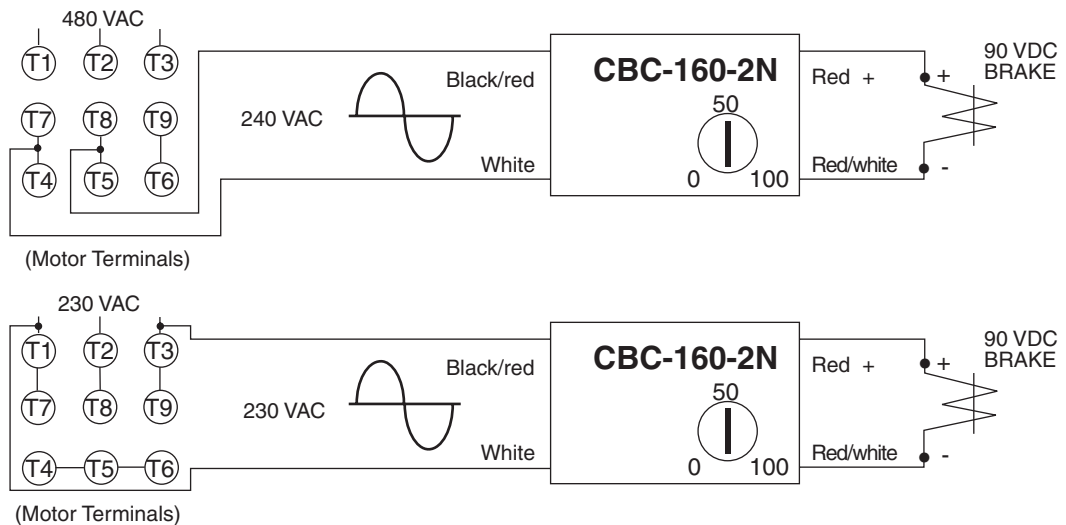

Figure 4
2. If wiring to a motor for operation with an electrically released brake, refer to (Figures 4 and 5) for correct wiring for either 230/480VAC motor connections.